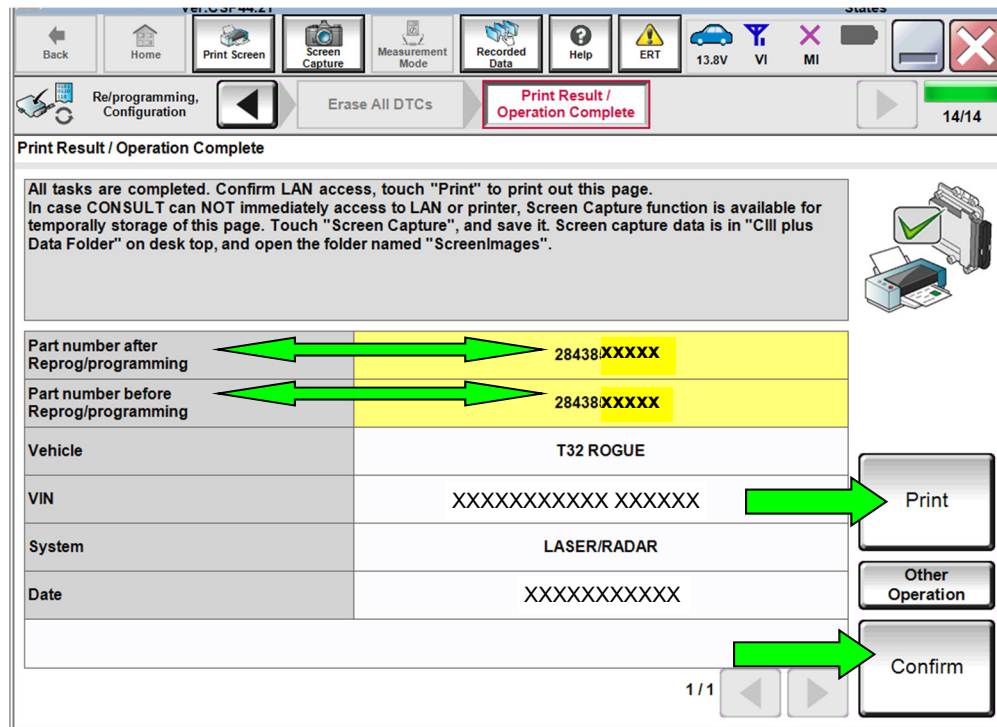

Figure 24
40. Print a copy of this screen (Figure 24) and attach it to the repair order for warranty documentation.